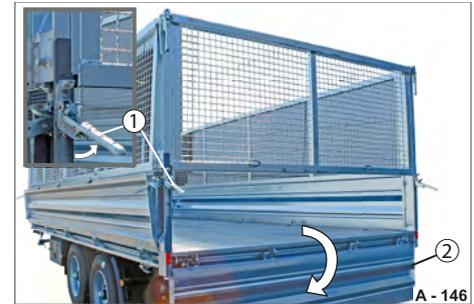

Fig. 152 Hinges, unfastened
- ▶ Open the locks (Fig. 152/1) of the base platform gate.
- ▶ Carefully fold down the base platform gate (Fig. 152/2).